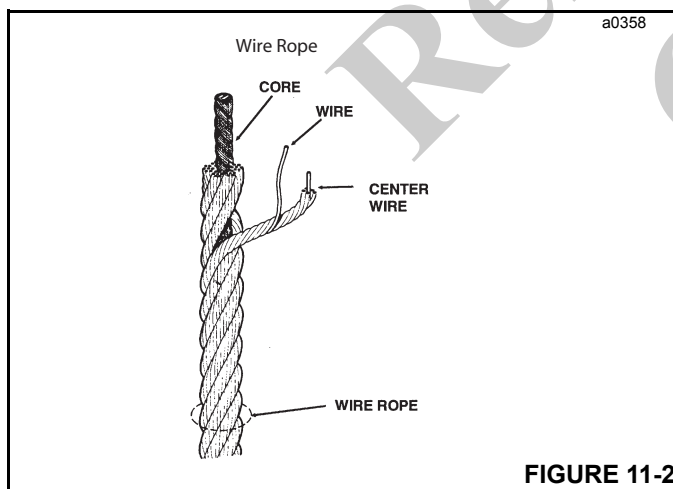

FIGURE 11-2
Every wire rope has three basic components (Figure 11-2): (1) The wires which form the strands and collectively provide rope strength; (2) the strands, which are laid helical around the core, and (3) the core, which forms a foundation for the strands. The core used in the crane wire rope is an Independent Wire Rope Core (IWRC), which is actually a smaller rope, or a strand similar to the outer strands of the rope. The IWRC core adds about 7.5% to the nominal strength of the wire rope.